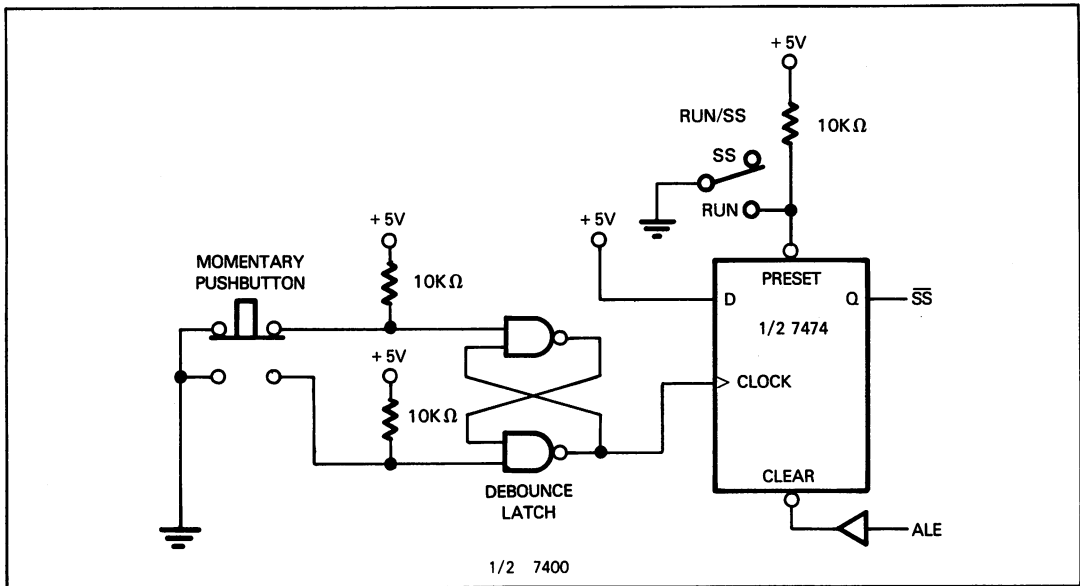

Figure 6-11. An 8048 Single Step Circuit
**Single stepping is an 8048 series microcomputer program debugging aid. Intel literature suggests the circuit illustrated in Figure 6-11 to create an  $\overline{\text{SS}}$  signal that is initiated by an ALE pulse and terminated by a pushbutton.**